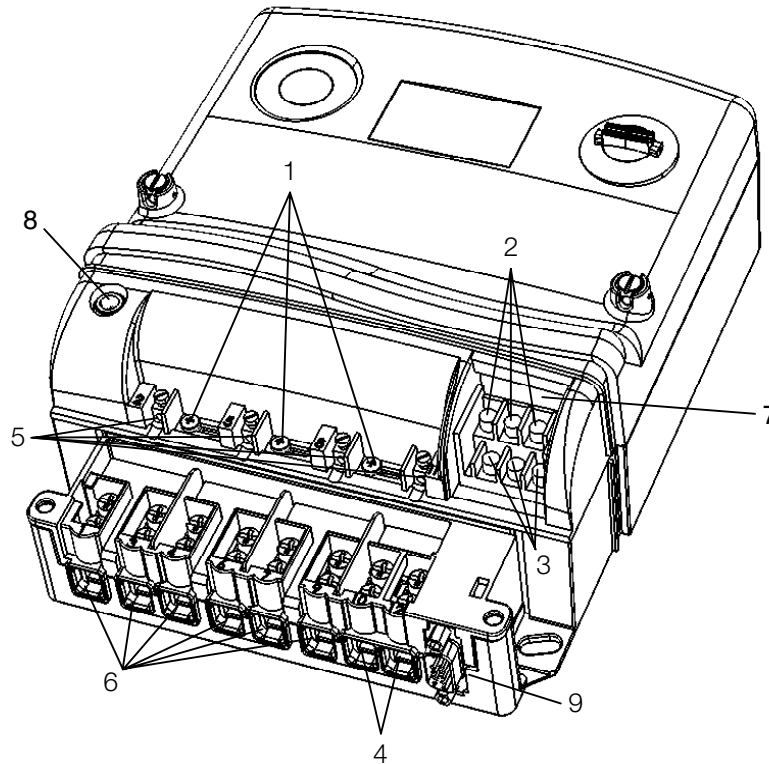

Figure 2. A1000 ALPHA Type C and A1200 ALPHA direct connected meter base assembly
- 8 On direct connected meters, check that the three voltage disconnect links (1 in Figure 2) are closed. The meter is shipped from the factory with the voltage disconnect links closed and the screws tightened to 0.18 to 0.24 N-m (25 to 34 oz-inches) torque. The links are closed when the link screws are positioned to the left (when facing the meter as shown in Figure 2).